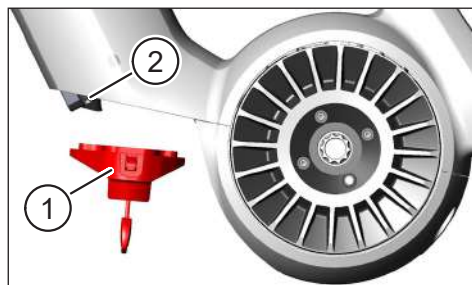

Fig. 12: Removing the battery lock
- Remove the battery lock (see No. 1 in Fig. 12).
At the same time, hold the battery (see No. 2 in Fig. 12) with one hand to ensure that it does not fall out of the down tube.